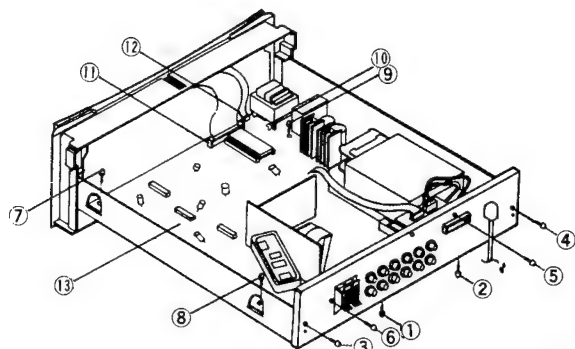

Fig. 2
1. Remove screws ① to ⑥ in Fig. 2, and then remove the rear panel.
1. Remove the rear panel in Fig. 2(Refer to step ②)
2. Remove connectors ⑪ to ⑬ in Fig. 2, and then remove pcb supports ⑩
3. Remove screws ⑦ to ⑨ in Fig. 2, and then remove the main pcb ⑬